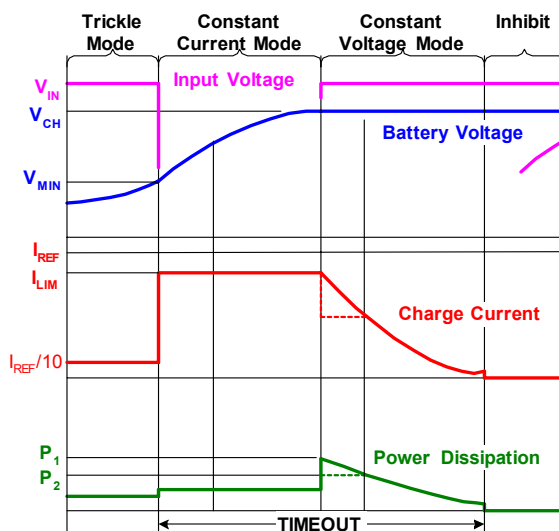

FIGURE 2. TYPICAL CHARGE CURVES USING A CURRENT-LIMITED ADAPTER.
Figure 2 shows the typical waveforms in a charge cycle of the dual mode operation. When the battery is below V_{MIN} , the charge current is 10% of I_{REF} set by the IREF pin. Since the charge current is much less than the I_{LIM} , the ac/dc converter operates in the voltage source region. Once the battery voltage exceeds V_{MIN} , the charger starts to fully turn on the internal P-channel power MOSFET. The ac/dc converter operates in the current-limited region and its voltage is pulled down to a level slightly higher than the battery voltage. As shown in Figure 2, the charge current is I_{LIM} and is lower than I_{REF} . As the battery voltage reaches the 4.2V V_{CH} , the charge current starts to decrease. The ac/dc supply moves out of the current-limit region and
The power dissipation is also shown in Figure 2. The power dissipation in both the trickle mode and the constant-current (CC) mode are very low. The possible peak power occurs at the transition from the CC mode to the constant-voltage (CV) mode. This peak power is much lower than the peak power normally seen in a linear charger and can be further reduced by properly designing the ac/dc converter. One simple approach is to design the ac/dc converter output voltage just high enough to fully charge the battery (normally lower than 5V). More information can be found in the ISL6292 datasheet available at <http://www.intersil.com>. To ensure the thermal safety, the ISL6292B has an internal thermal fold-back function that automatically reduces the charge current if the internal temperature typically rises above 100°C.